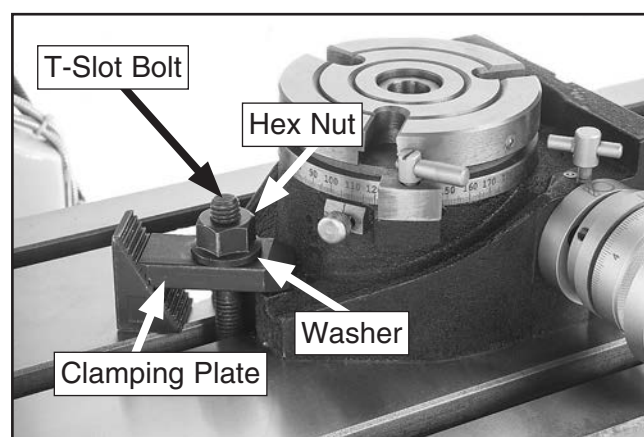

Figure 11. Rotary table mounted using T-slot bolt assemblies.
2. Position T-slot bolts on rotary table over T-slots in milling table (see **Figure 11**).
3. Insert (3) T-slot bolts into each milling table T-slot, then install (3) clamping plates, (3) 10mm flat washers, and (3) M10-1.5 hex nuts onto each T-slot bolt (see **Figure 11**).
4. Secure rotary table using hex nuts. Ensure rotary table is rigid to increase accuracy, efficiency, and safety (see **Figure 11**).